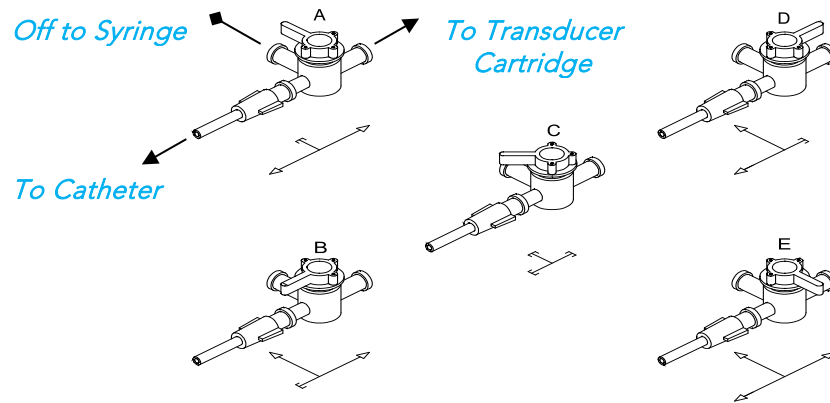

Figure 27: Stopcock Flow Directions
4. Turn the stopcock "OFF" to the catheter (See Figure 27, Option B).
6. Turn the stopcock "OFF" towards the Luer lock plug (See Figure 27, Option D).
8. Turn the stopcock "OFF" towards the syringe for pressure recording (See Figure 27, Option A).
Each option in Figure 27 indicates a stopcock position; arrows indicate lumens open to flow based on stopcock position while squared off arrows indicate off position.